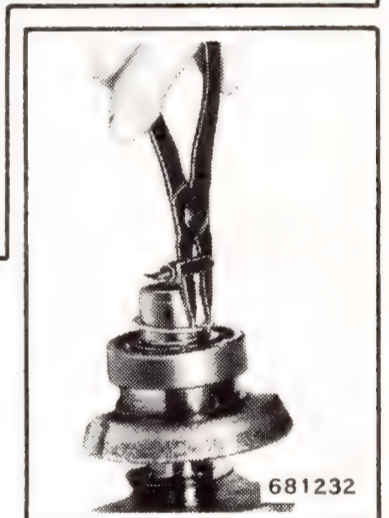

Figure 5-19. Lower Bearing Removal
f. Lift retaining rings out of grooves and slide aside to remove the two crankshaft center main roller bearings for cleaning and inspection. The top main bearing and seal assembly with "O" ring slides off. If necessary to remove the bottom main bearing, remove retaining using a Truarc pliers (Special Tool #307429, see Figure 5-19) and use a puller to remove bearing.